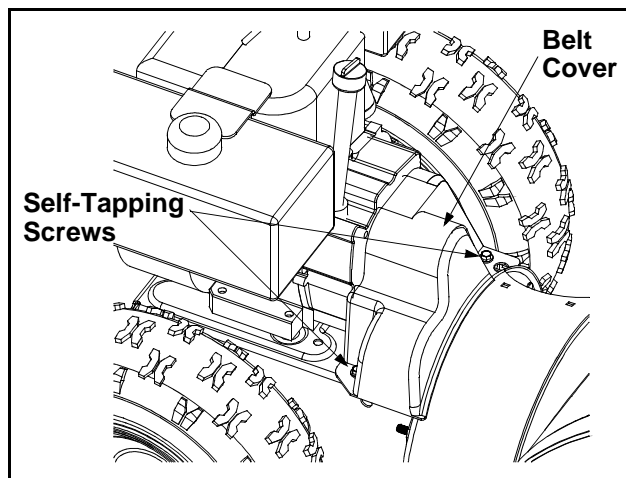

Figure 20
1. Remove the plastic belt cover on the front of the engine by removing the two self-tapping screws. See Figure 20.